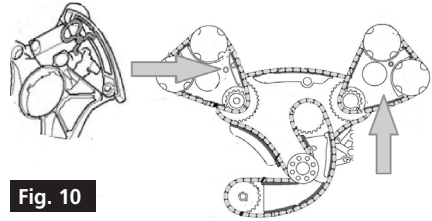

Fig. 10
**Component G** - Chain Tensioner Locking pin – use to lock and hold the chain tensioner on the 2.4/3.2 V engines in its retracted position. See Fig. 10.